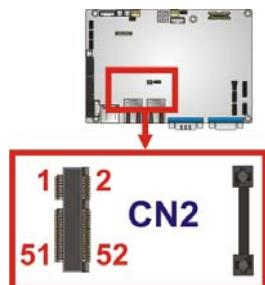

Figure 3-10: PCIe Mini Card Slot Location
**CN Location:** See Figure 3-10